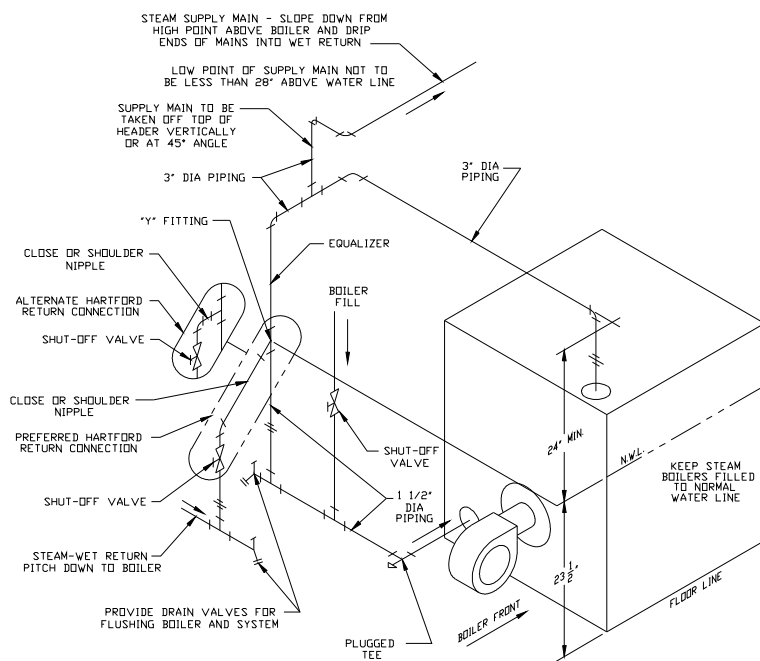

FIGURE 10: STEAM BOILER PIPING FOR GRAVITY RETURN
Figure 10 shows recommended near boiler piping for most common types of gravity return steam systems. Additional information on steam system design may be found in *Installation Guide for Residential Hydronic Heating Systems* (Pub. #200) published by the Hydronics Institute in Berkeley Heights, NJ.
- 5) Connect system supply and return to boiler. See Figure 10. All KSZ boilers use one supply riser and one return tapping.